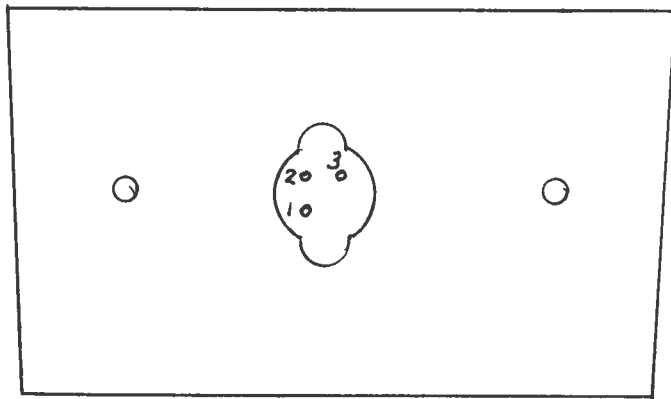

Fig. 2 DIODE SOCKET PIN CONNECTIONS
- 4) The connecterized detector diode may be removed by removing the 4 Phillips 2-56 screws which affix the diode assembly to the 2 x 5 cm aluminum mounting plate in the side of the amplifier. The diode may then be removed from the socket by gently pulling the diode package away from the amplifier chassis. The aluminum mounting plate may be removed by loosening the 8-32 nuts (4) then removing the 8-32 machine screws (2). Other PIN detector diodes may be inserted into the socket. The pin connections are as shown in Fig. 2.